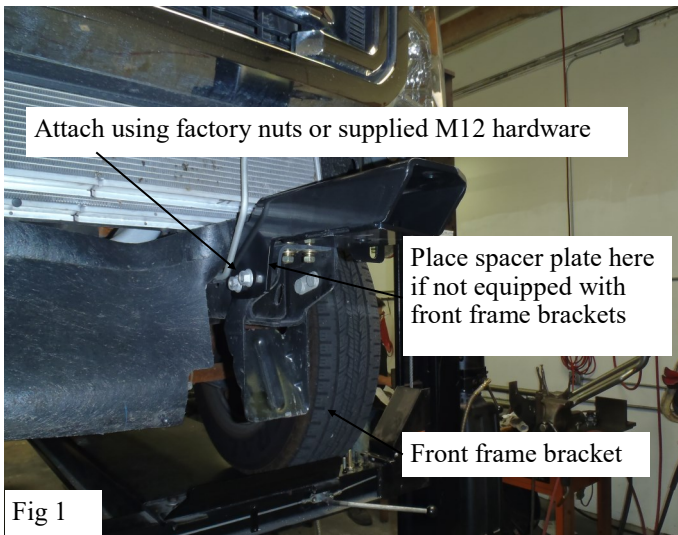

Fig 1
4. Take the drivers side mounting bracket and place it on top of the frame. Attach it to the factory double bolt plate using the factory nuts (it may be necessary to loosen the nuts on the opposite side if the frame bracket springs back excessively). Attach the mounting bracket to the tow hook mounting point using (3) M10 hex head bolts, (6) M10 flat washers, (3) M10 lock washers, and (3) M10 hex nuts. Do not fully tighten at this time. NOTE: If your vehicle is not equipped with front frame brackets (1) spacer plate must be placed between the mounting bracket and the inside of the frame. In this case the factory double bolt plate will not be on the vehicle so the mounting bracket must be attached using (2) M12 hex head bolts (4) M12 flat washers, (2) M12 lock washers, and (2) M12 hex nuts. Do not fully tighten at this time. Repeat this step for the passenger side. {Fig 1 & 2}